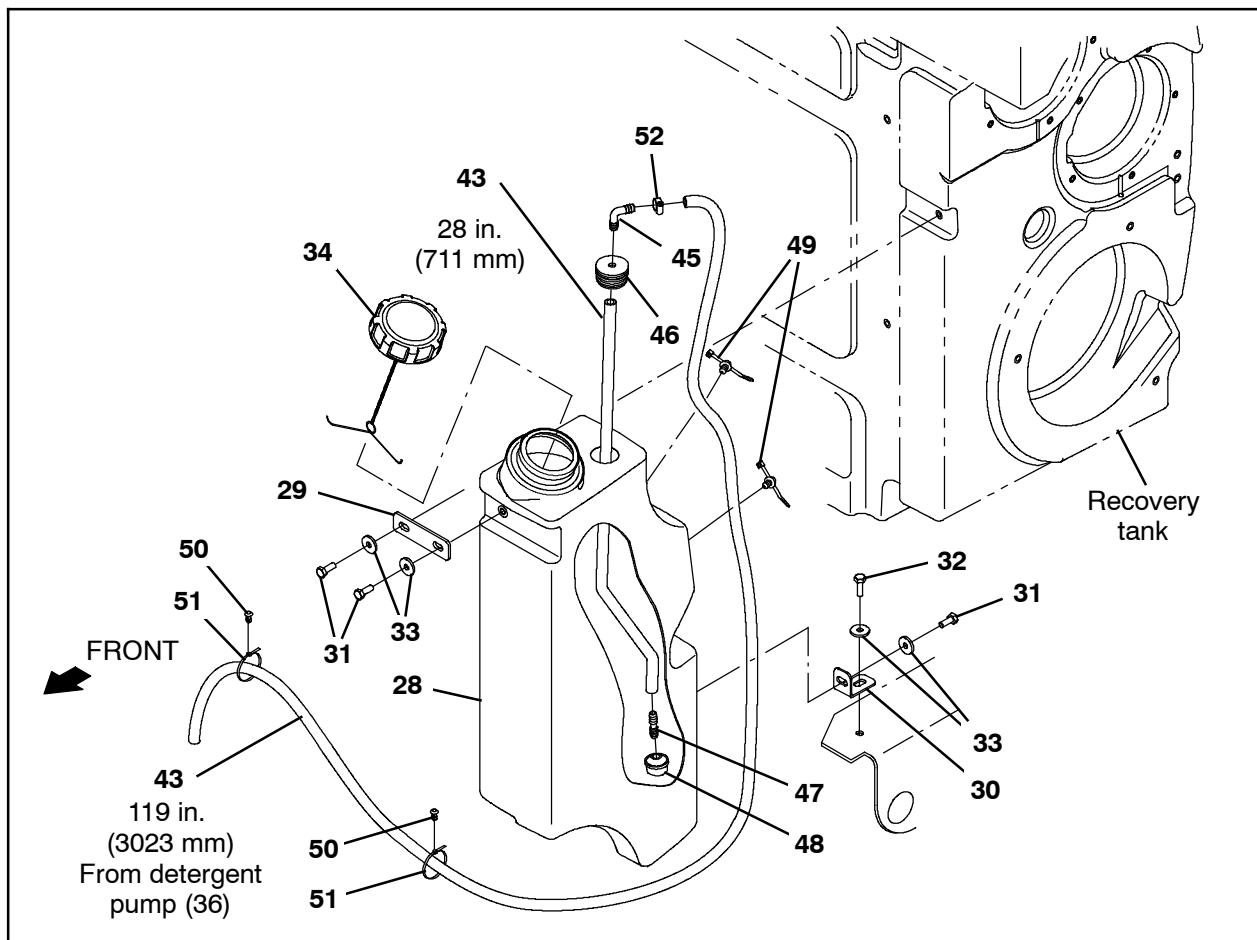

FIG. 9
63. Route the 38 in. (965 mm) PVC hose (15) up along the back of the solution tank / front of battery compartment and to the check valve (10) installed in the previous step. (Fig. 9)
64. Use a hose clamp (16) to connect the 38 in. (965 mm) PVC hose (15) to the check valve (10). (Fig. 9)
65. Thread the straight fitting (47) into the pump screen (48). (Fig. 9)
66. Install the screen assembly assembled in the previous step onto the 28 in. (711 mm) PVC hose (43). (Fig. 9)
67. Install the plastic elbow fitting (45) into the grommet (46) and insert the end of the fitting inside the grommet into the 28 in. (711 mm) PVC hose (43). (Fig. 9)
68. Install the hose assembly assembled in the previous several steps into the detergent tank (28). (Fig. 9)
69. Use one M8 hex screw (31) and one flat washer (33) to install the detergent tank bracket (30) onto the detergent tank (28). (Fig. 9)
70. Use one M8 hex screw (31) and one flat washer (33) to install the detergent tank mounting plate (29) onto the detergent tank (28). (Fig. 9)
71. Use one M8 hex screw (32) and one flat washer (33) to install the detergent tank bracket (30) onto the frame of the machine. (Fig. 9)
72. Use one M8 hex screw (31) and one flat washer (33) to secure the detergent tank mounting plate (29) / detergent tank (28) to the recovery tank. (Fig. 9)
73. Use a hose clamp (52) to connect the 119 in. (3023 mm) PVC hose (43) to the elbow fitting (45) installed on the grommet (46) / detergent tank (28). (Fig. 9)
74. Install both wire tie clips (49) onto the detergent tank (28) and use the wire ties to secure the 119 in. (3023 mm) PVC hose (43) to the detergent tank. (Fig. 9)
75. Install the tank cap (34) onto the detergent tank (28). (Fig. 9)
78. Use four cable tie clips (51) / cable ties (50) to secure the 119 in. (3023 mm) PVC hose (43) to the frame of the machine. (Fig. 9)